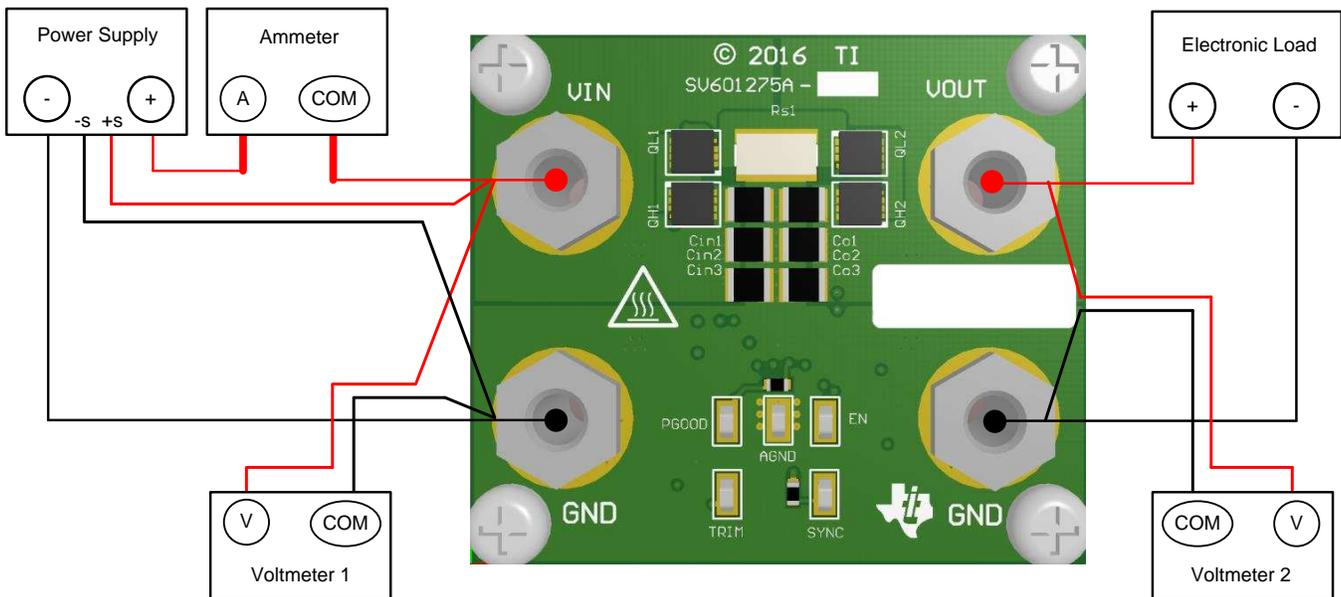

Figure 3. Test Setup Connection Diagram
Figure 3 shows the recommended test setup to evaluate the LM5175RHFVEM-HD. Working at an ESD workstation, make sure that any wrist straps, boot straps or mats are connected referencing the user to earth ground before power is applied to the EVM.
- Prior to connecting the DC input source, it is advisable to limit the source current to 10 A maximum. Make sure the input source is initially set to 0 V and connected to VIN and GND banana connections as shown in Figure 3. While the on-board hybrid electrolytic capacitor provides input circuit damping, an additional high-ESR input capacitor may be required if long input lines are used.